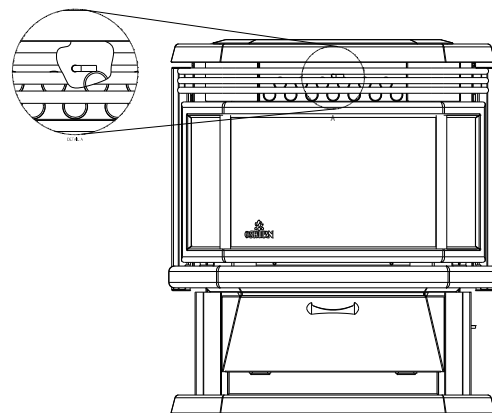

FIGURE 19
- a. **Heat Exchange Tubes** – Your Osburn Hybrid-45 MF stove is designed with a built-in heat exchanger tube cleaner. This should be used weekly to remove accumulated ash on the tubes. To clean the heat exchanger, open the door and grab the cleaning rod located behind the louvers (just above the stove's door) and push it forward. Close the door. Slide the cleaning rod back and forth two or three times from front to back (refer to figure 19). When finished, push the cleaning rod back in, behind the louvers.